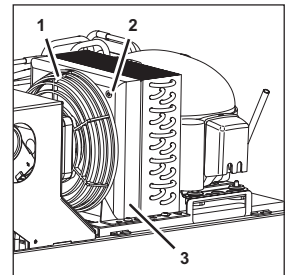

Fig. 53
1. Remove the fastening bolt (Fig. 53/2) from the fan (Fig. 53/1).
2. Lift the fan (Fig. 53/1) out of the cladding (Fig. 53/3).
7. Position the fan (Fig. 53/1) in the cladding (Fig. 53/3).
8. Attach the fastening bolt (Fig. 53/2) of the fan (Fig. 53/1).